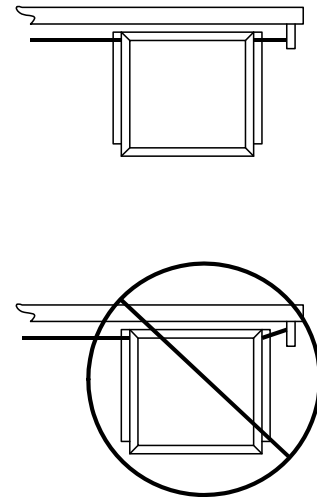

Figure 14
5. Adjust the chain bolts to tighten the chain. The chain should sag no more than one (1) inch per 10 feet of travel. Do not over tighten the chain. **IMPORTANT!! Be sure that the chain is parallel to the gate (figure 14). Installing the chain in any other manner will cause excessive noise, chain idler wear and chain stretching.**